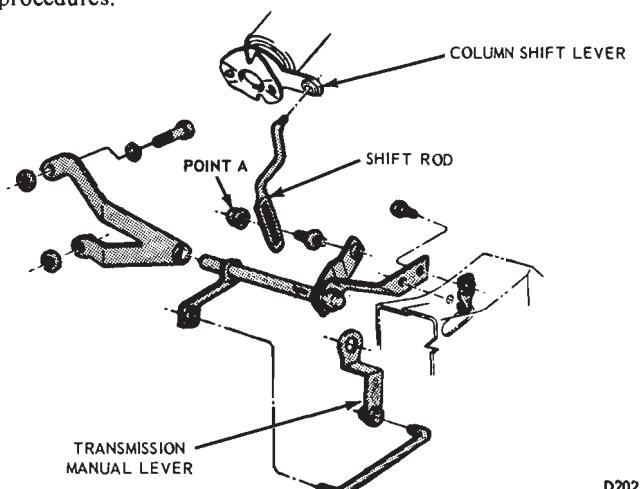

FIG. 4—Manual Linkage—Column Shift—Ford-Meteor
2. Loosen the shift rod adjusting nut at point A (Fig. 4 or 5).